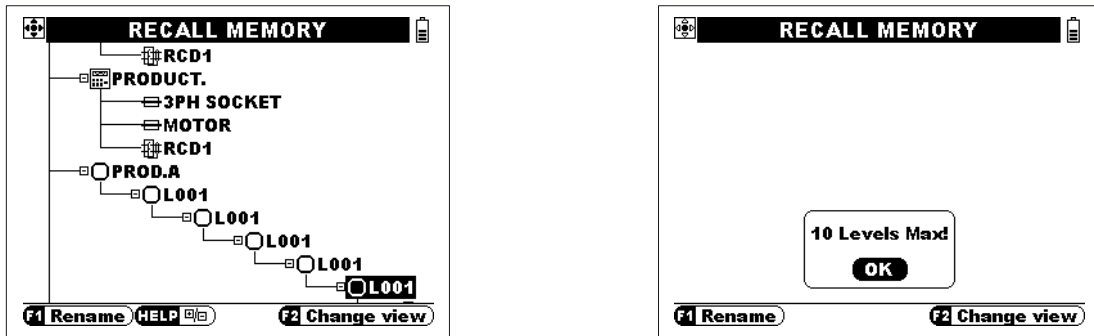

Figure 6.3: Sub-levels depth definition
- The tree structure is limited to 2000 locations with 10 levels in depth, see figure 6.3.